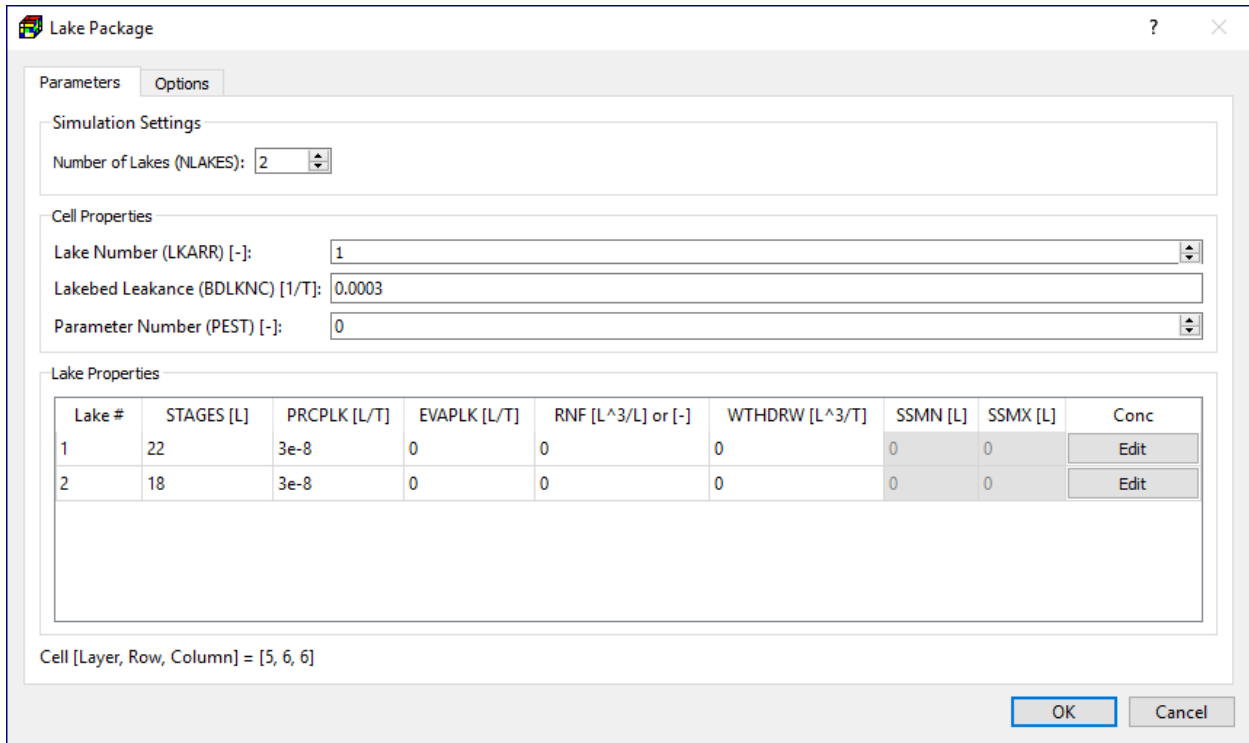

Figure 57. The Lake Package dialog box
1. Cell-by-cell input method: Figure 57 shows the dialog box for specifying cell properties.